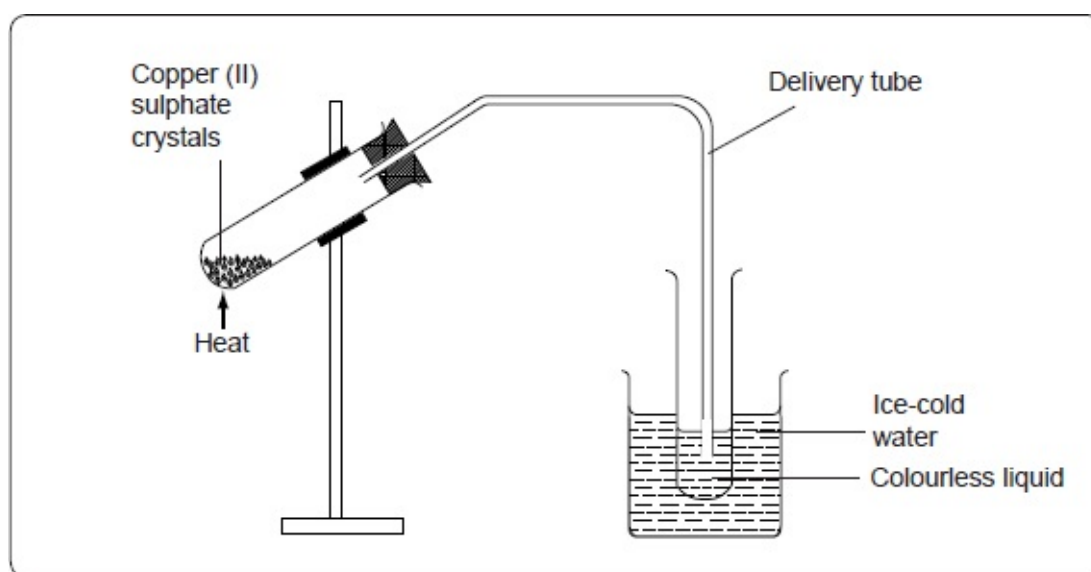

Fig 2.23: Heating of copper sulphate crystals.
the apparatus as shown in figure 2.23. Heat the copper (II) sulphate gently until there is no further change. Disconnect the delivery tube, continue heating for a while, then stopper the boiling tube. Allow it to cool and record your observations. Divide the solid into two portions. Put the portions into two separate test-tubes. Put a thermometer into the first test tube. Measure and record the temperature of the solid. Using a dropper, add about three to four drops of tap water into the test tube. Take the temperature of the resultant mixture. Place a thermometer into the second portion, measure and record the temperature of the solid. Add two to three drops of the liquid collected during heating. Take the temperature of the resultant mixture. Repeat the experiment using cobalt (II) chloride crystals.